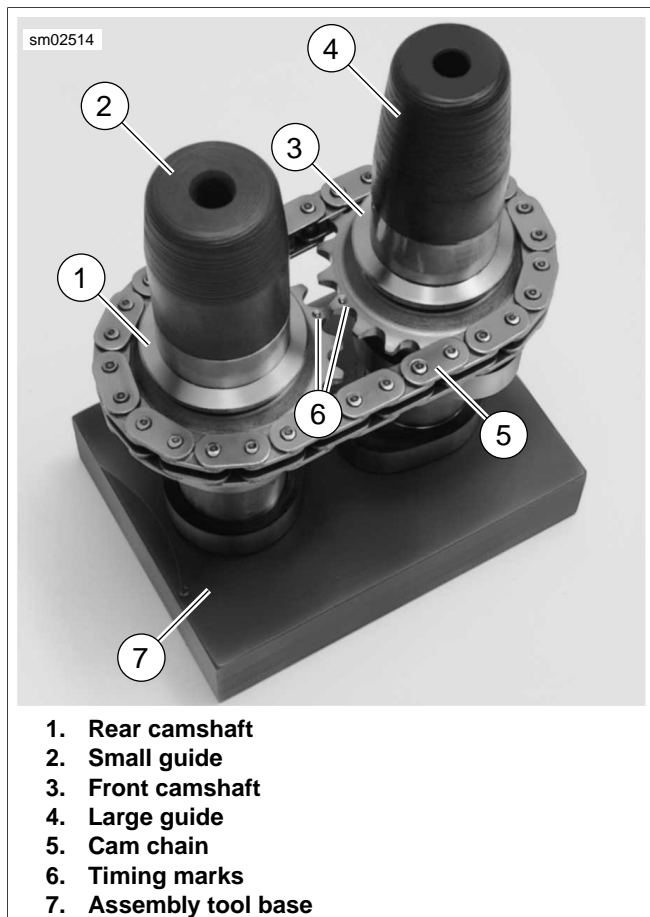

Figure 3-110. Camshaft Assembly Tool
- See Figure 3-110. Obtain CAMSHAFT ASSEMBLY TOOL (Part No. HD-47956). Place crankcase side of